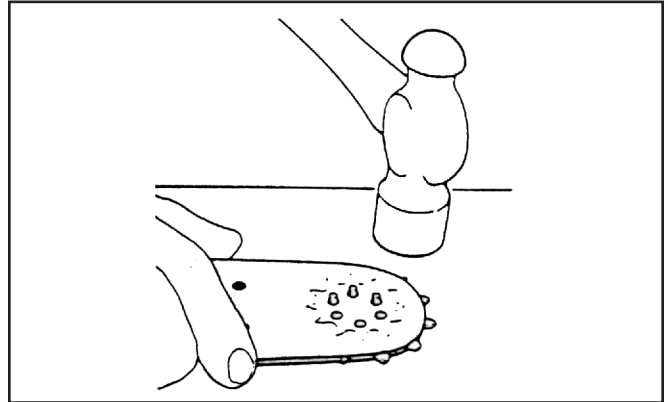

Figure 29. Replacing Rivets
6. With the bar and rivets solidly supported on a strong flat steel surface, carefully peen the rivet heads down with the flat end of a hammer. Be careful to only hit the rivet head. Do not hit the bar body; this will pinch the nose sprocket. Rivet heads must completely fill the countersinks in the bar body and be snug and secure while still allowing the sprocket to freely turn. See Figure 29.